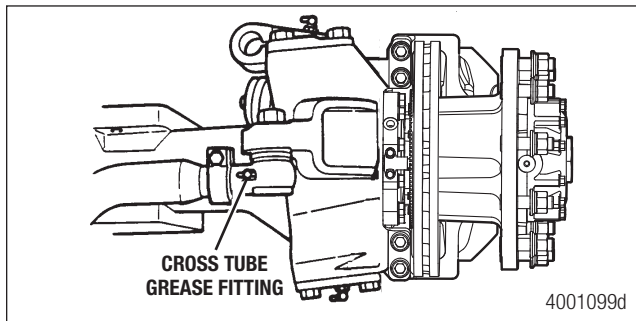

Figure 16.5
2. Check the tie rod for looseness. If loose, service as necessary. Figure 16.5.